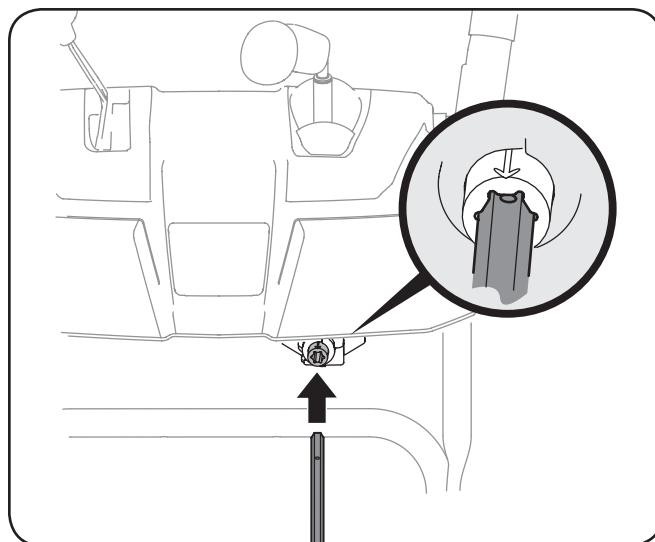

Figure 3-10
6. Insert the hex end of the rod (*hole pointing upward*) into the pinion gear. See Fig. 3-10.